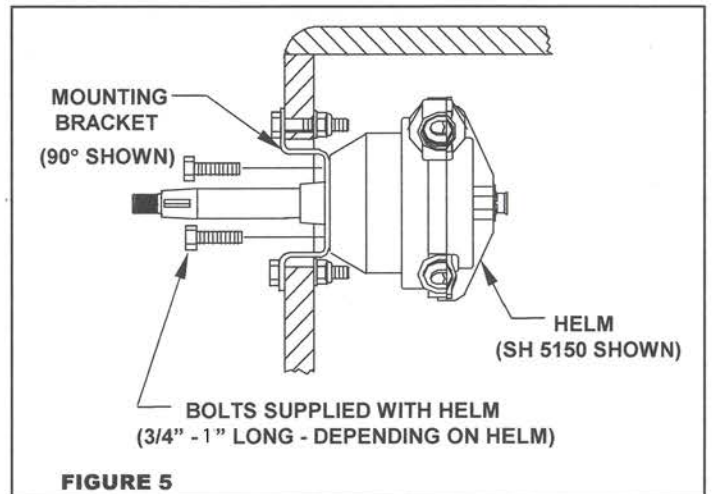

FIGURE 5
1. Insert helm steering shaft through hole in mounting bracket (see Figure 5), orienting in the proper direction for steering cable entry, and align mounting holes. Insert the three (3) hex bolts supplied with the helm through the mounting bracket and thread into the helm. Torque to 75 inch-pounds minimum. DO NOT EXCEED 120 INCH-POUNDS.